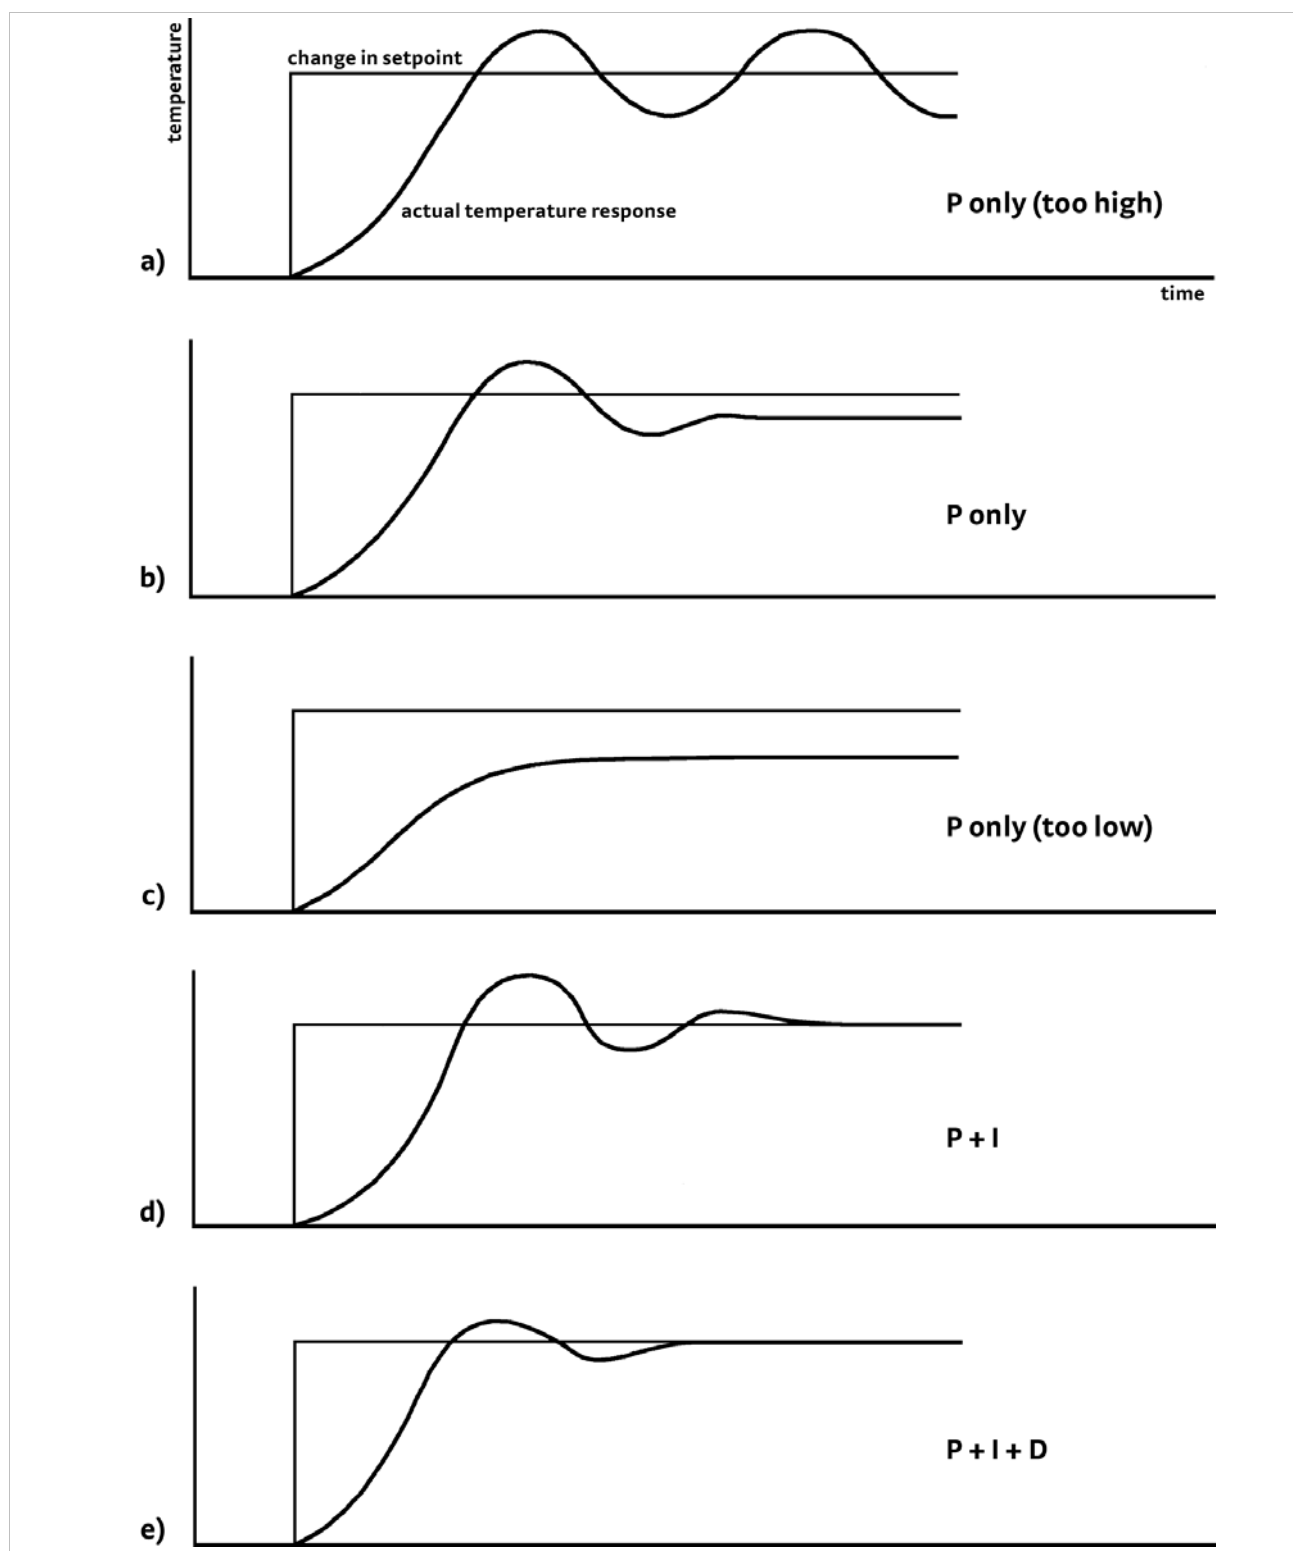

FIGURE 2-2 Examples of PID control
For closed-loop operation, the Model 336 temperature controller uses an algorithm called PID control. The control equation for the PID algorithm has 3 variable terms: proportional (P), integral (I), and derivative (D). See FIGURE 2-2. Changing these variables for best control of a system is called tuning. The PID equation in the Model 336 is:
8. Repeat step 7 until you reach a setting in which the load temperature begins a sustained and predictable oscillation, rising and falling in a consistent period of time. See FIGURE 2-2(a).
11. Reduce the proportional setting by half. The appropriate proportional setting is one half of the value required for sustained oscillation in step 8. See FIGURE 2-2(b). Continue to Tuning Integral section 2.8.3.
When the proportional setting is chosen and the integral is set to 0 (off), the Model 336 controls the load temperature below the setpoint. Setting the integral allows the Model 336 control algorithm to gradually eliminate the difference in temperature by integrating the error over time. See FIGURE 2-2(d). An integral setting that is too low causes the load to take too long to reach the setpoint. An integral setting that is too high creates instability and can cause the load temperature to oscillate.
If an experiment requires frequent changes in setpoint, derivative should be considered. See FIGURE 2-2(e). A derivative setting of 0, off, is recommended when the control system is seldom changed and data is taken when the load is at steady state.